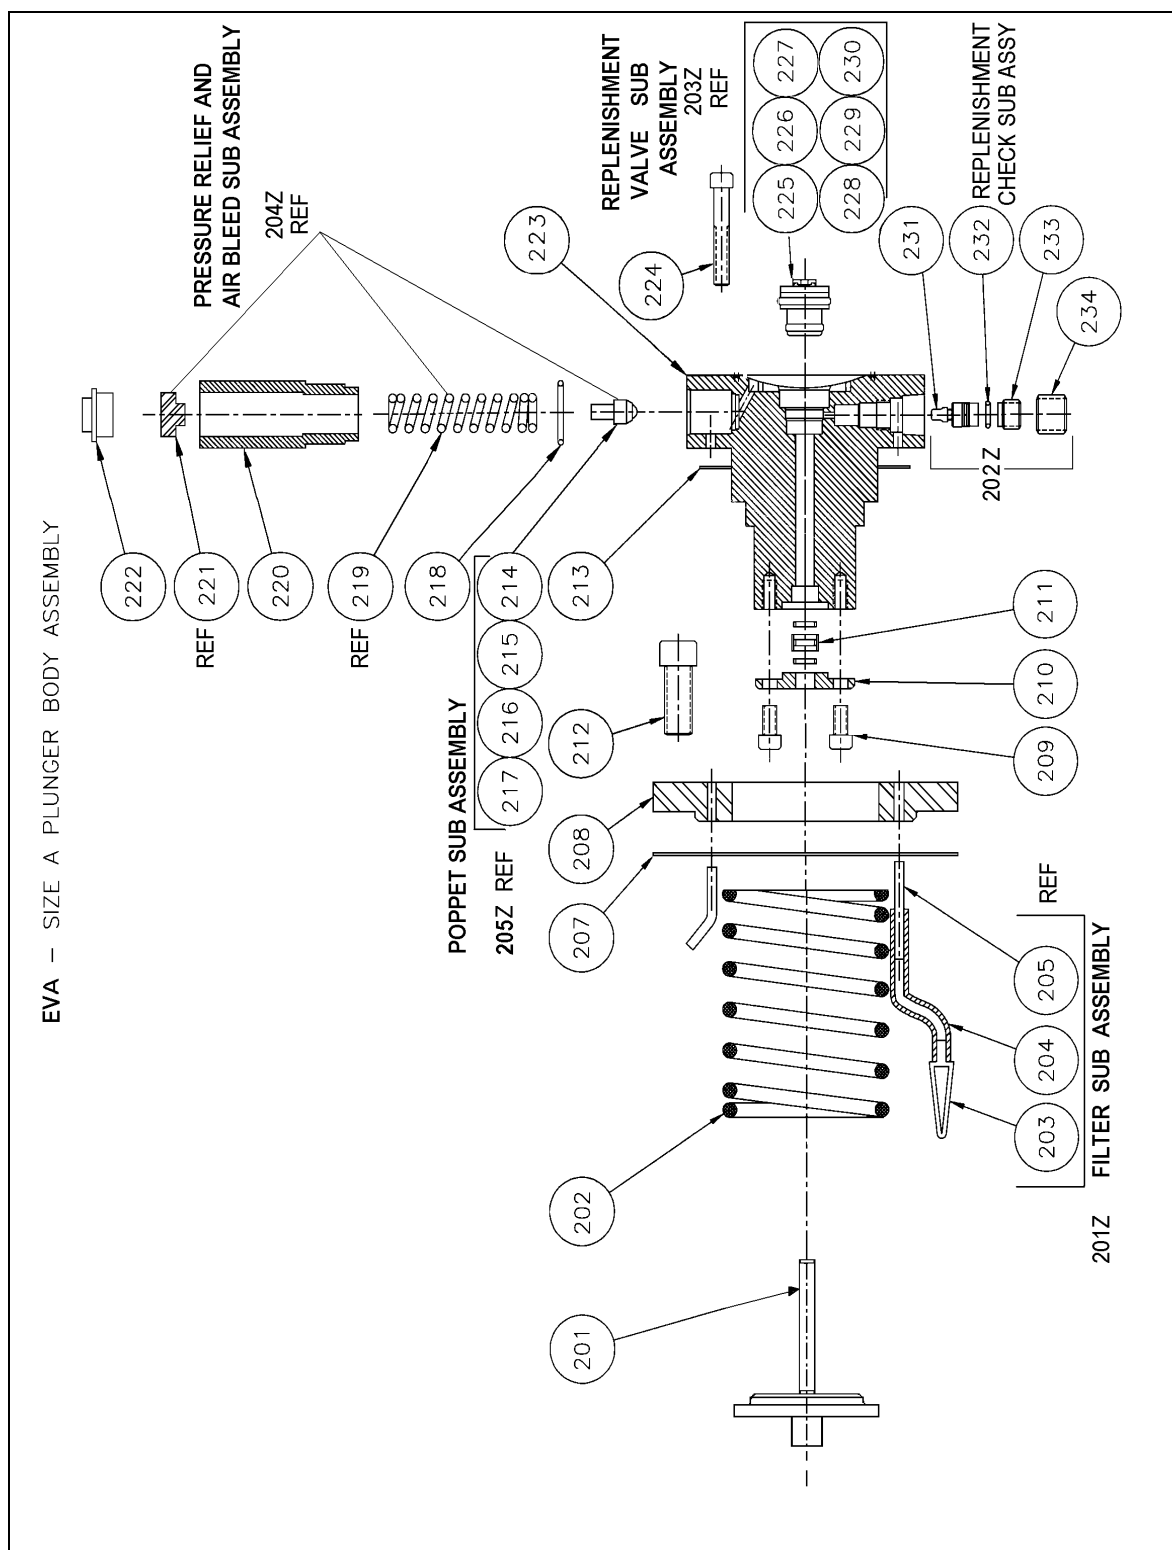
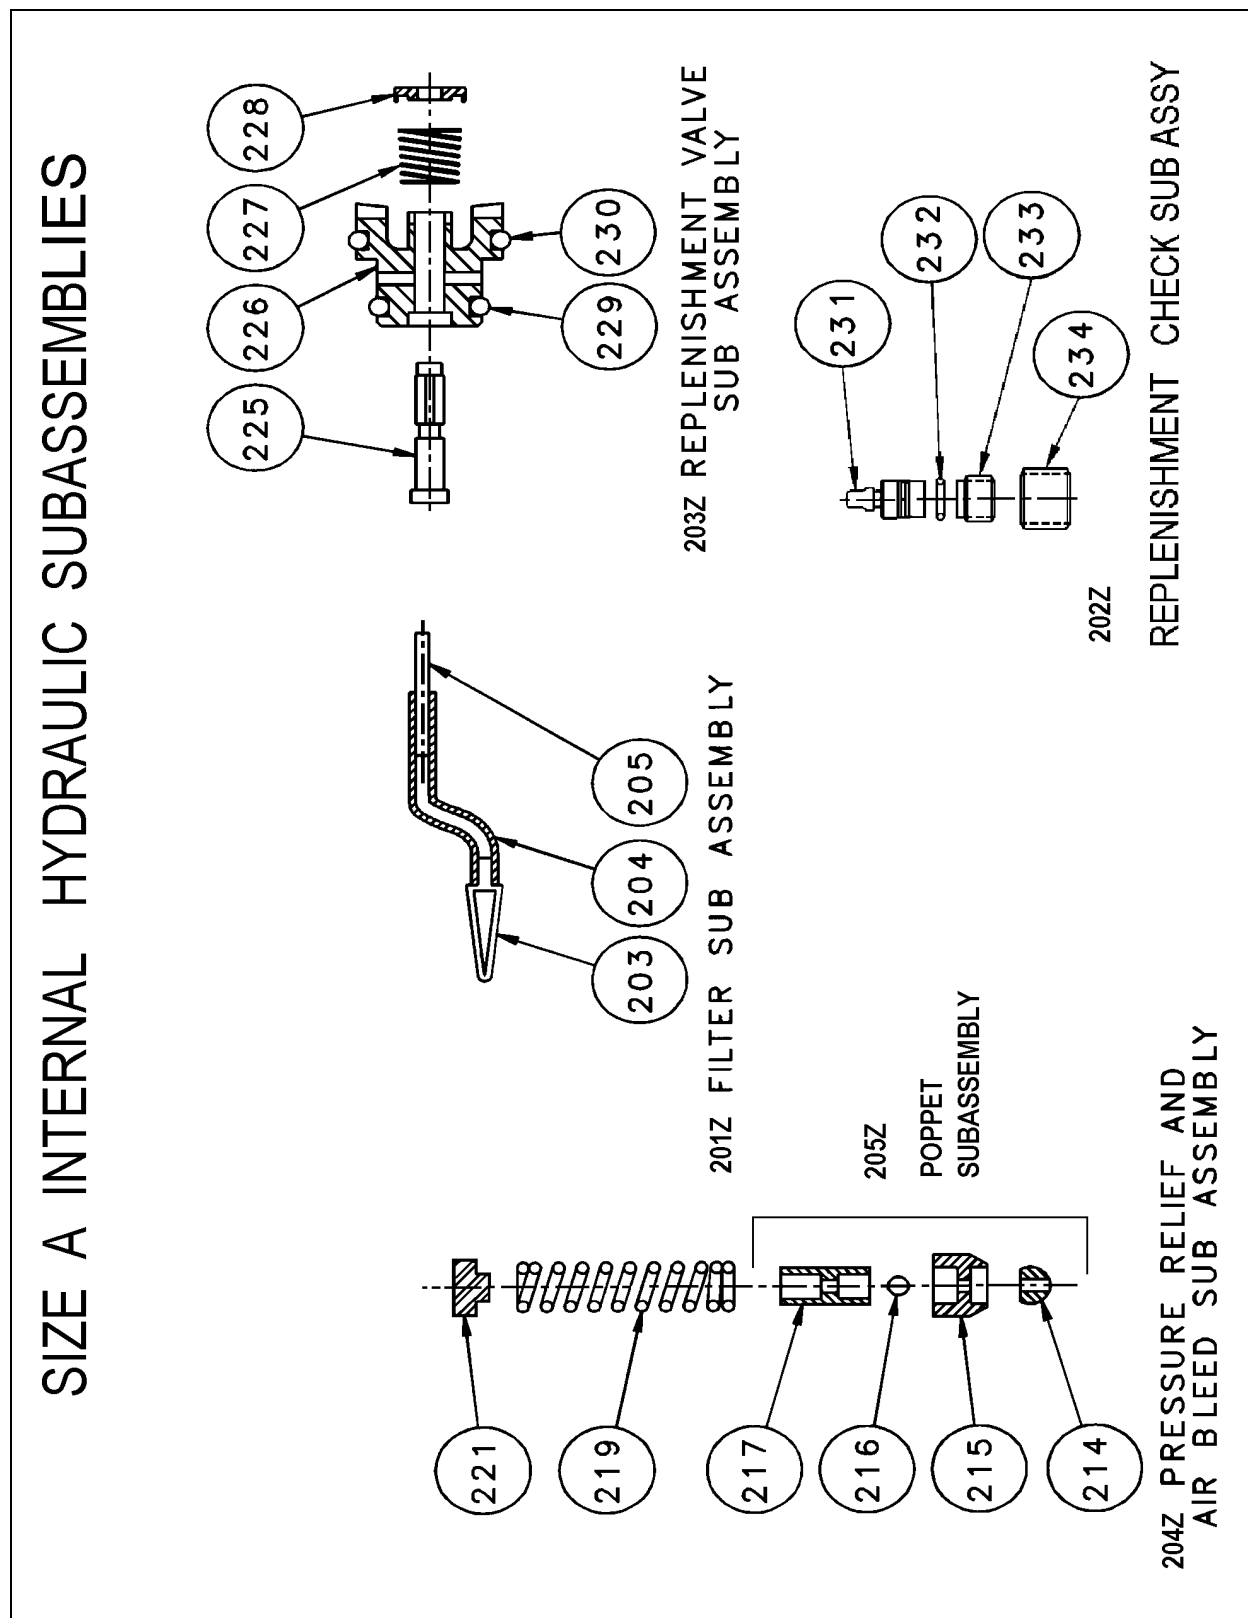

Figure 29. Plunger Body Assembly, Size A.
Figure 30. Internal Hydraulic Subassembly, Size A.
6.8 PLUNGER BODY ASSEMBLY COMPONENTS, SIZE A (FIGURE 29)
6.9 INTERNAL HYDRAULIC SUBASSEMBLIES, SIZE A (FIGURE 30)
6.10 PLUNGER BODY ASSEMBLY, SIZE A (FIGURE 29 & 30)
* Complete Plunger Body Assembly Contains All Plunger Body Assembly Components (Figure 29) and 5 Subassemblies (Figure 30).